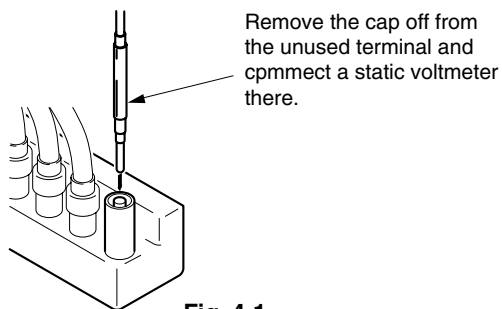

Fig. 4-1
1. Connect a HV static voltmeter to the unconnected plug of the high-voltage block. (Fig.4-1)